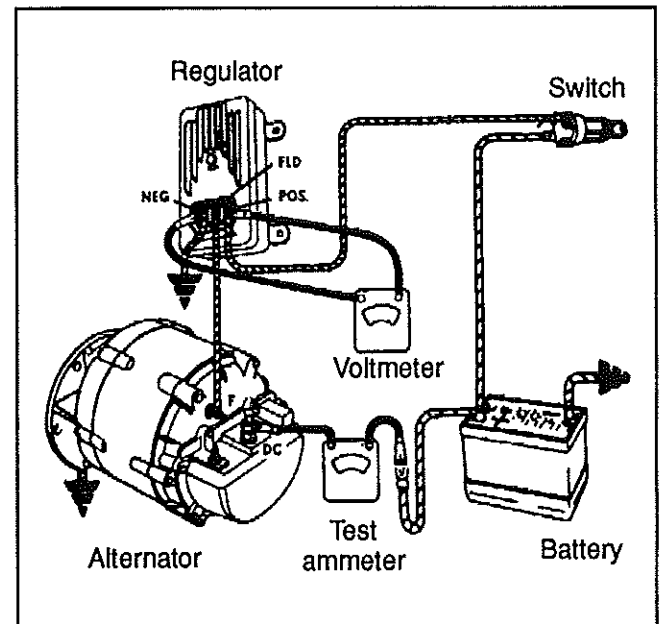

Fig. 32
1. To check the voltage setting, connect a voltmeter across the "POS" and "NEG" terminals on the regulator, and an ammeter to the "DC" terminal on the alternator. Refer to figure 32.